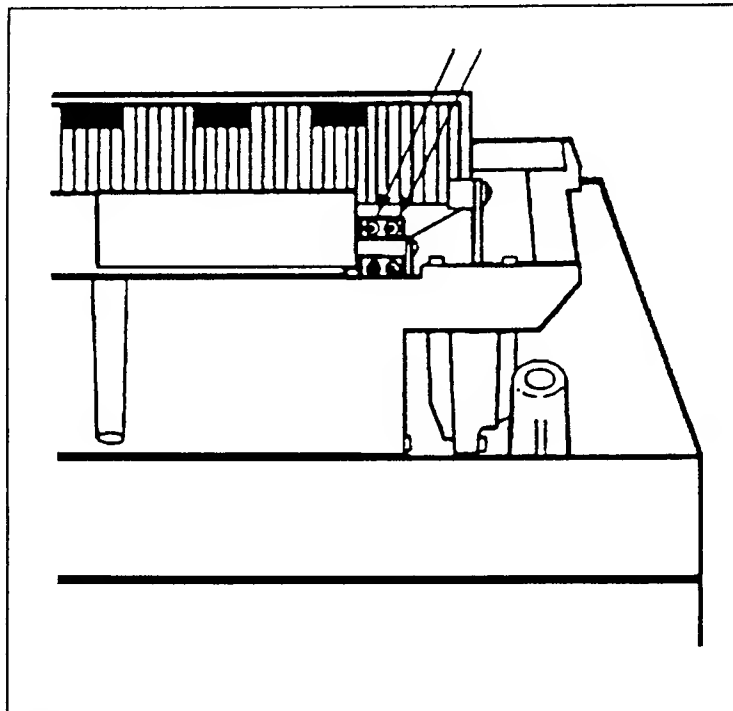

Figure 6-21. Upper Crank Arm Screws
- i. Remove the two screws (3mm socket cap screws) from the upper crank arm of the print mechanism (see Figure 6-21).